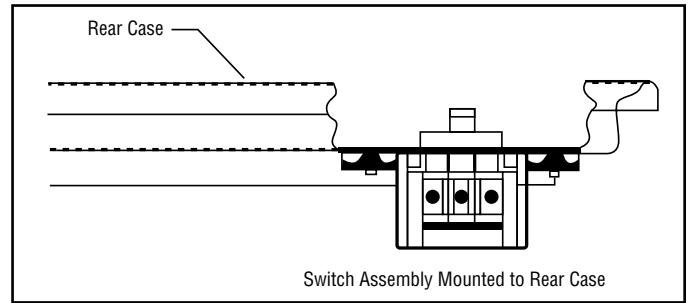

Figure 8
9. Insert the four self tapping screws into the four holes until they engage the holes in the mounting bracket and tighten until they are secure (see Figure 8).